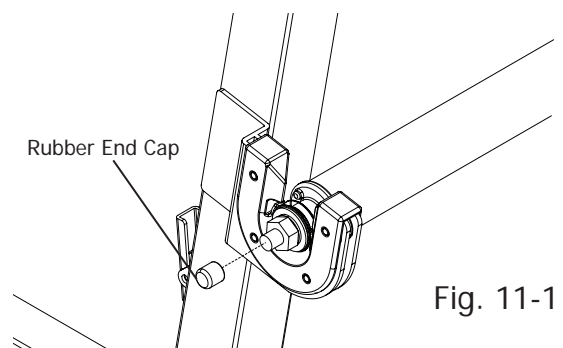

Fig. 11-1
11-1: Slide one (1) rubber end cap onto the end of each bolt, as shown in Fig 11-1, sticking out of your pole ends, short bolt ratchet assemblies and your long bolt ratchet assembly.